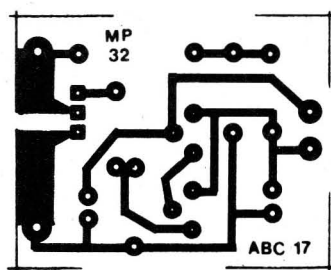

Fig.3
- FIG. 3 - LAY OUT DO CIRCUITO IMPRESSO ESPECÍFI-